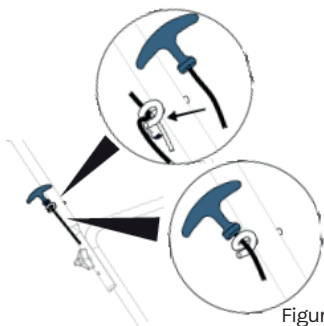

Figure 3-3
3. Place the starter rope into the guide hook. (See Fig. 3-3)